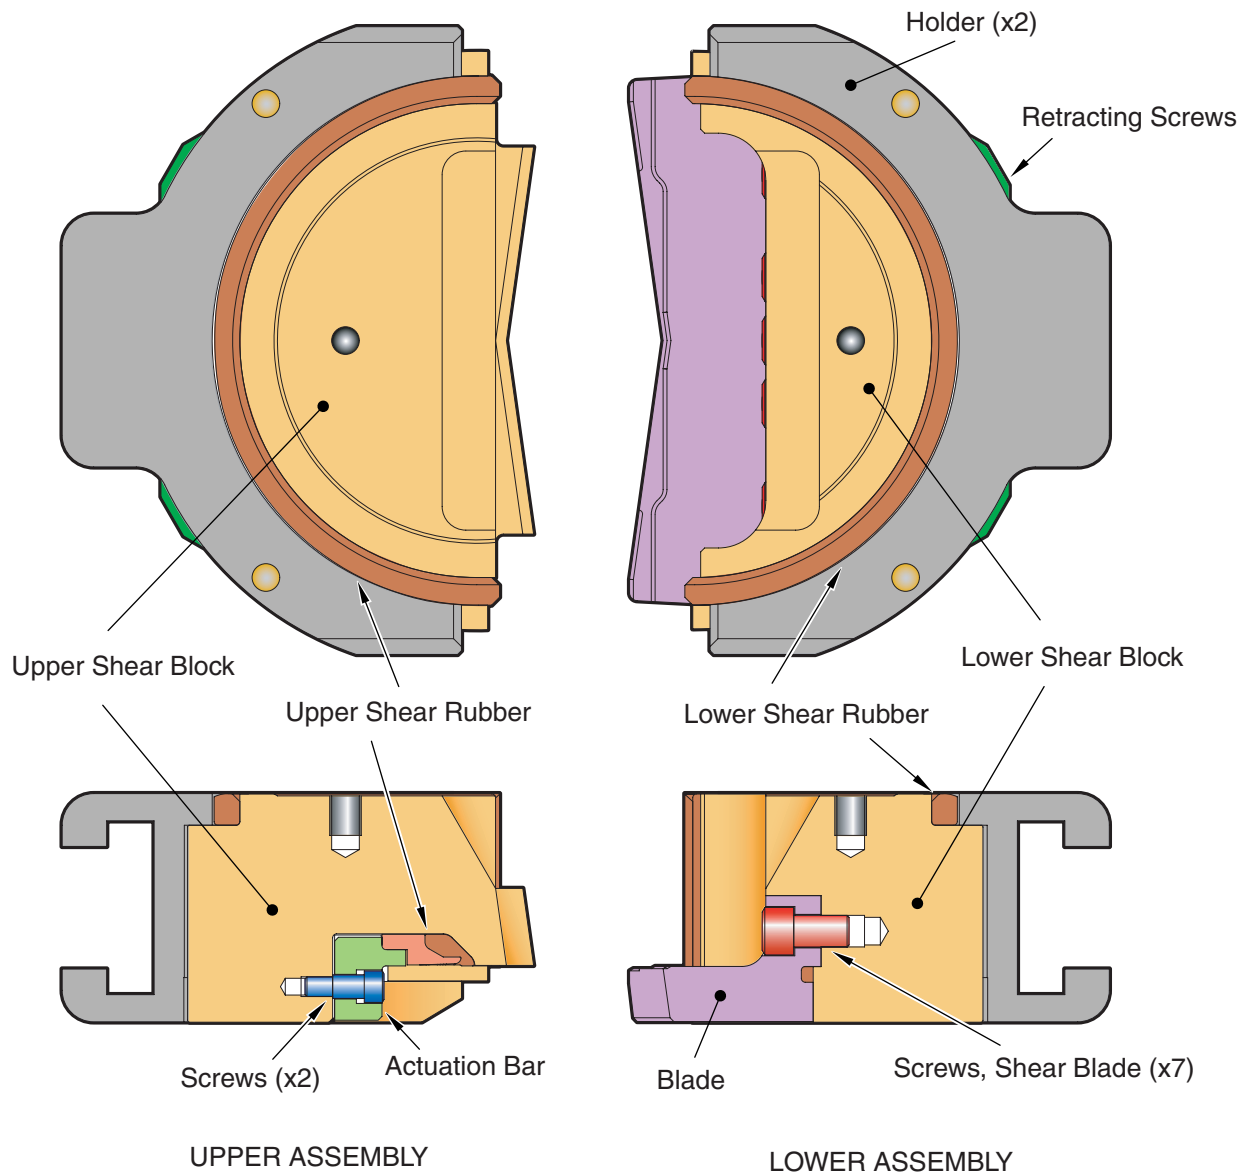

Figure 4-28. Shear Ram Assembly
3. Install a new rubber on the block as shown in Figure 4-28 on page 4-32.
5. Install the blocks on the holders (see Figure 4-28 on page 4-32).
6. Install the retracting screws and torque (see Figure 4-28 on page 4-32).